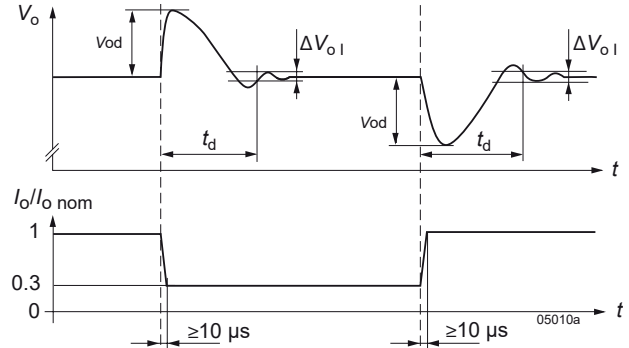

Fig. 5
- Condition for specified output. With multiple-output models, other output(s) loaded with constant current $I_{o, \text{nom}}$. See fig. 5 *Dynamic load regulation*.
- Condition for non-specified output, individually tested, other output(s) loaded with constant current $I_{o, \text{nom}}$. See fig. 5 *Dynamic load regulation*.